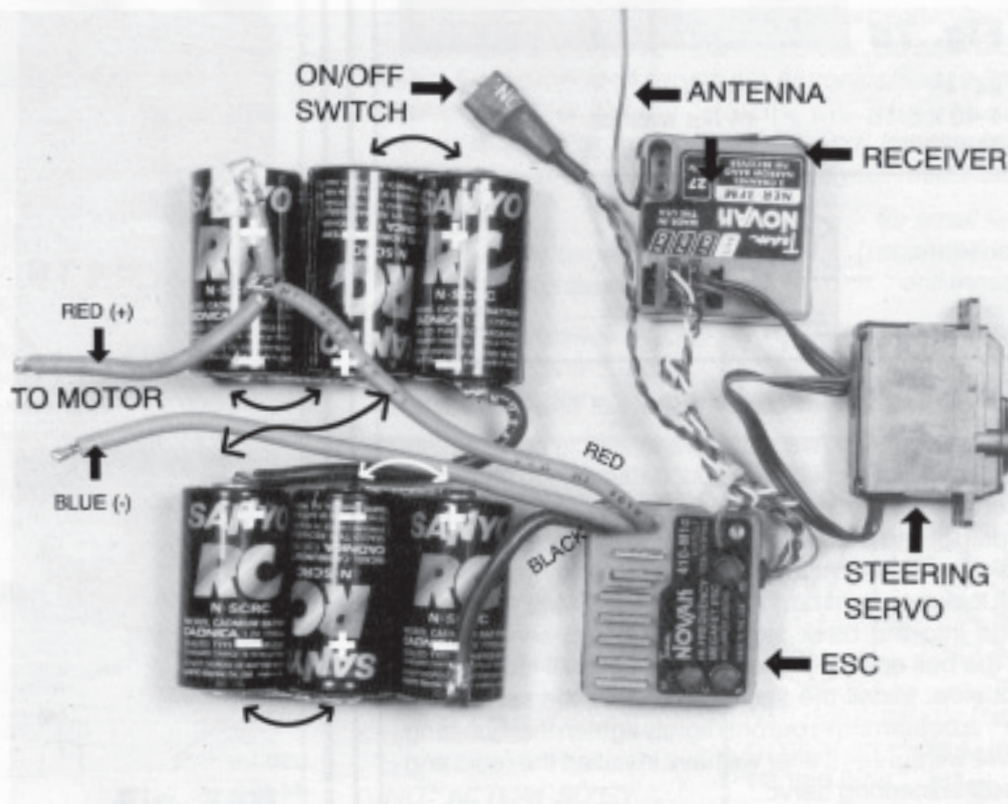
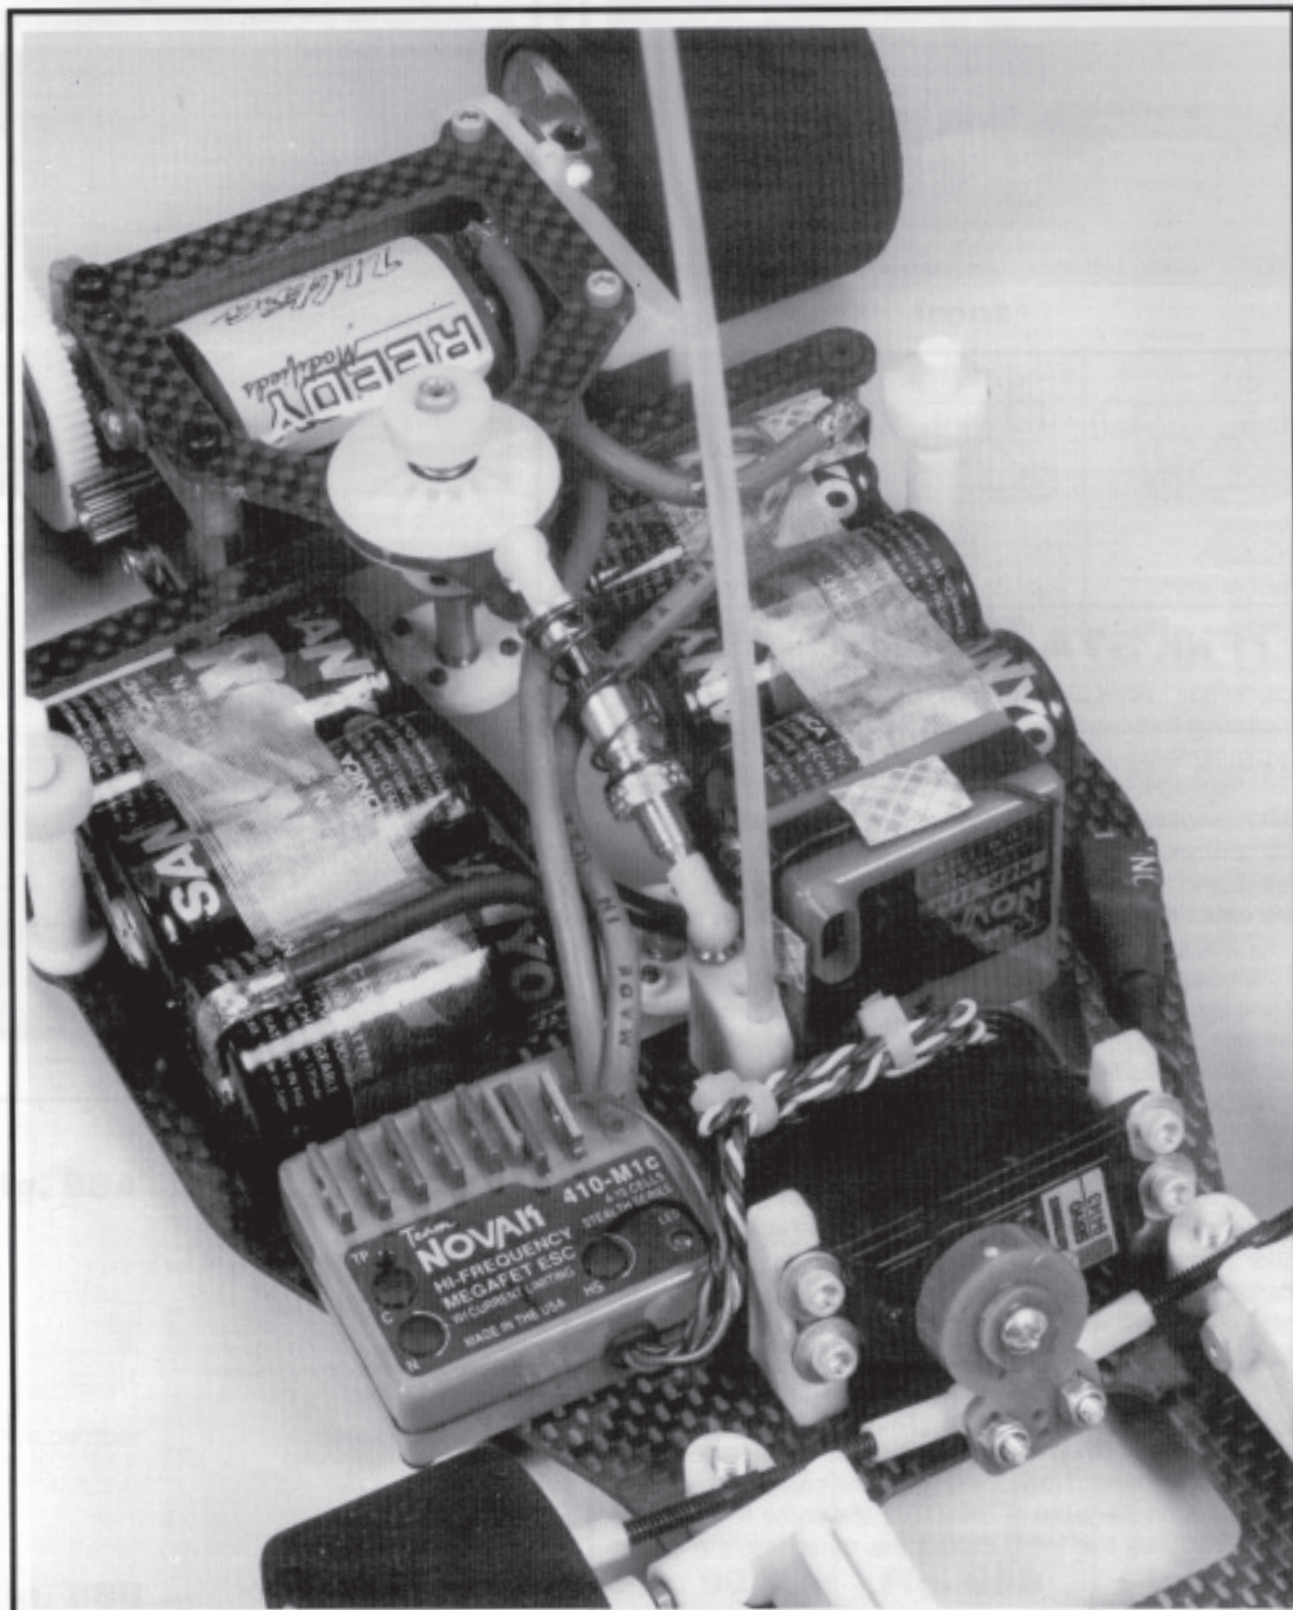

Fig. 83
Fig. 84
Fig. 83 Fig. 84 shows the basic layout of the different parts of the rest of the electrical system. The photos show both a Novak High Frequency Speed Control and a three channel FM Receiver along with Sanyo 1700 mah SCRC Batteries.
□ **Fig. 84** After all your connections have been made according to Fig. 83, mount the set-up in the car as shown here.